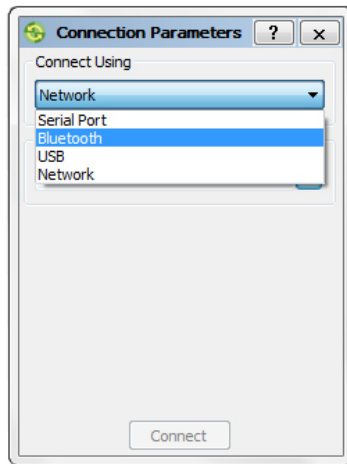

Figure 11: Connection Parameters Window
5. In the **Connection Parameters** window (Figure 11), do the following: